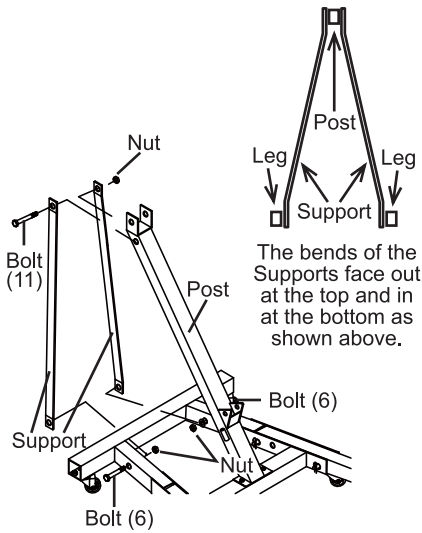

Figure 7
7. Use two Frame Bolts (6) and Nuts (3) to fasten the lower ends of the Supports to the inside of the Frame, then use one Hinge Bolt (11) and Nut (3) to fasten the top ends of the Supports to the Post. See Figure 7.